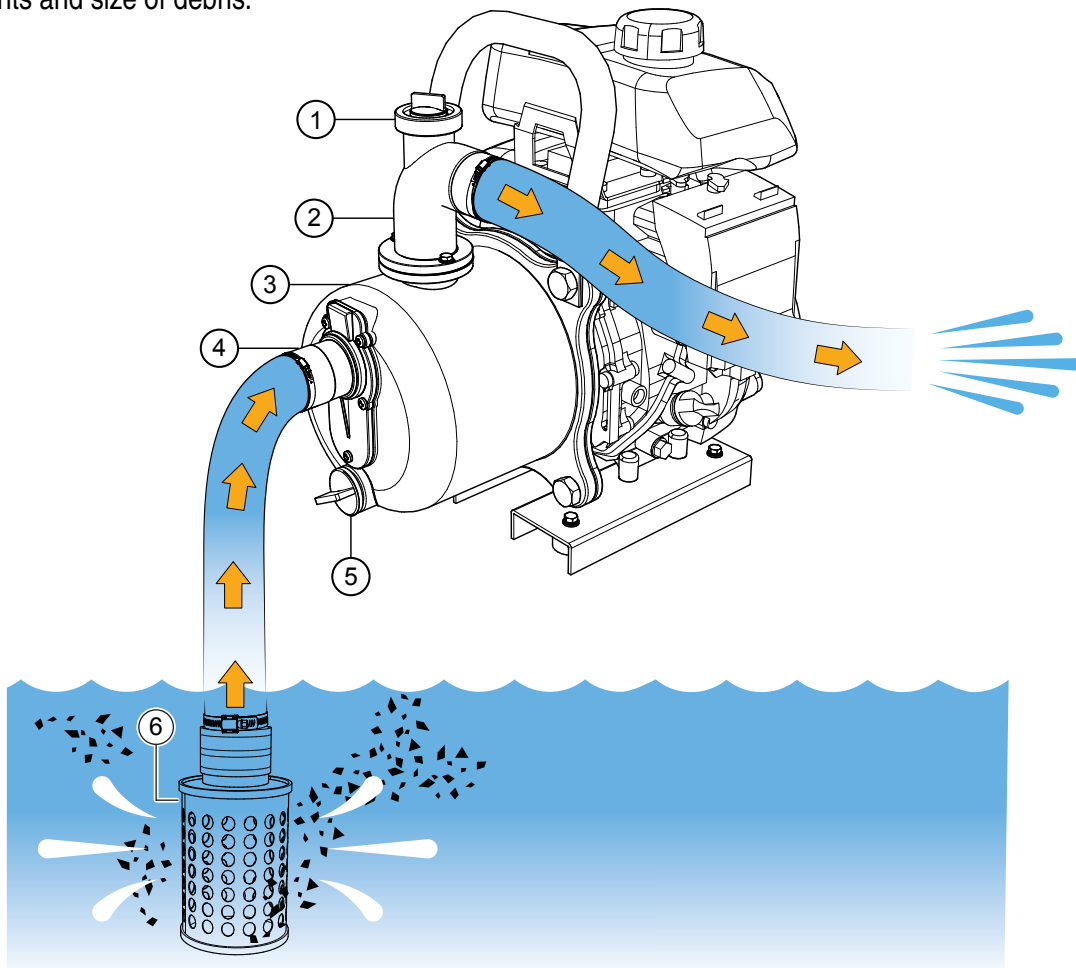

Figure 3. Pump Application
Figure 3 shows a typical application using the QP15HP centrifugal pump. This pump is designed to move clean water with minimal amounts and size of debris.
Reference Figure 3.
3. Initially prime the pump by removing the fill cap (see Figure 3) and filling the casing with water. If the pump casing is not filled with water prior to operations, it will not be able to start the pumping process and you risk overheating the mechanical seal assembly.